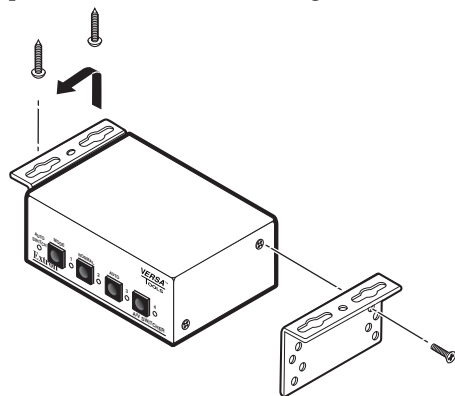

Figure 2-3 — Furniture mounting the MSW
- 2. Attach the mounting brackets to the MSW with the provided machine screws (figure 2-3).